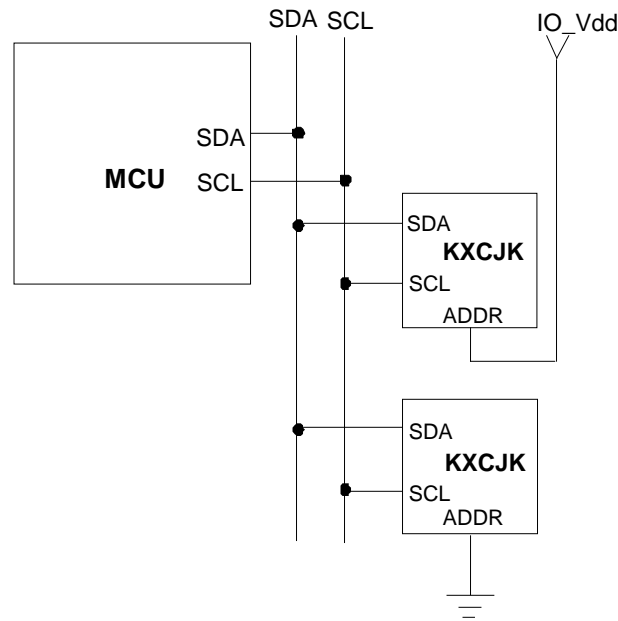

Figure 1. Multiple KXCJK I²C Connection
Transactions on the I²C bus begin after the Master transmits a start condition (S), which is defined as a high-to-low transition on the data line while the SCL line is held high. The bus is considered busy after this condition. The next byte of data transmitted after the start condition contains the Slave Address (SAD) in the seven MSBs (Most Significant Bits), and the LSB (Least Significant Bit) tells whether the Master will be receiving data '1' from the Slave or transmitting data '0' to the Slave. When a Slave Address is sent, each device on the bus compares the seven MSBs with its internally stored address. If they match, the device considers itself addressed by the Master. The KXCJK's Slave Address is comprised of a programmable part and a fixed part, which allows for connection of multiple KXCJK's to the same I²C bus. The Slave Address associated with the KXCJK is 000111X, where the programmable bit, X, is determined by the assignment of ADDR (pin 7) to GND or IO_Vdd. Figure 1 above shows how two KXCJK's would be implemented on an I²C bus.